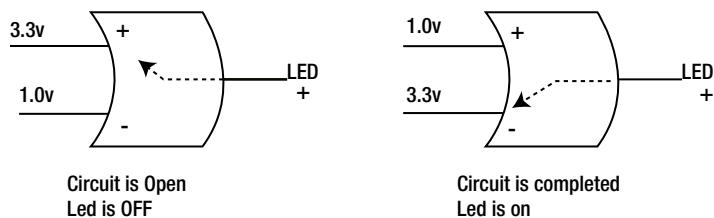

Figure 5-2. A very basic comparator circuit
2. Because we're concerned with the digital version of the PIR, the signal is sent over to another small chip that lives inside the PIR. This little chip is from a family of circuits called a comparator. You would mostly find a comparator inside an analog-to-digital converter, just like your PIR. A comparator's sole job is to compare two voltages or currents and then switch an output to indicate which is larger. Figure 5-2 is a diagram of how a comparator will work.